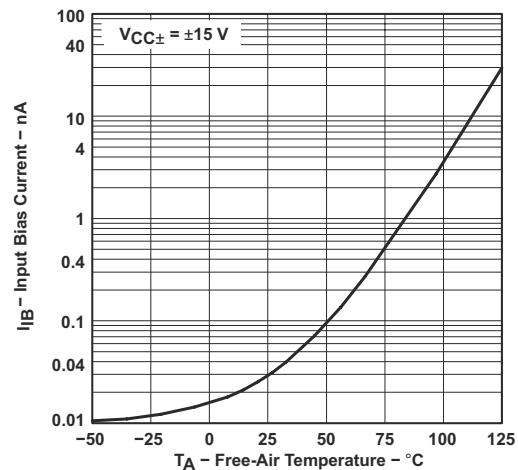

Figure 6-12. Input Bias Current vs Free-Air Temperature
- (1) All characteristics are measured under open-loop conditions with zero common-mode input voltage unless otherwise specified. Full range for  $T_A$  is  $0^\circ\text{C}$  to  $70^\circ\text{C}$  for TL06xC, TL06xAC, and TL06xBC and  $-40^\circ\text{C}$  to  $85^\circ\text{C}$  for TL06xI.
- (2) Input bias currents of an FET-input operational amplifier are normal junction reverse currents, which are temperature sensitive, as shown in Figure 6-12. Pulse techniques are used to maintain the junction temperature as close to the ambient temperature as possible.
- (3) Specified by design and characterization; not production tested.
- (1) All characteristics are measured under open-loop conditions with zero common-mode input voltage, unless otherwise specified. Full range for  $T_A$  is  $0^\circ\text{C}$  to  $70^\circ\text{C}$  for TL06xC, TL06xAC, and TL06xBC and  $-40^\circ\text{C}$  to  $85^\circ\text{C}$  for TL06xI.
- (3) Assured by design and characterization; not production tested.
- (1) This parameter is not production tested.
(2) All characteristics are measured under open-loop conditions, with zero common-mode voltage, unless otherwise specified.
(3) Input bias currents of an FET-input operational amplifier are normal junction reverse currents, which are temperature sensitive, as shown in Figure 6-12. Pulse techniques are used to maintain the junction temperature as close to the ambient temperature as possible.
(4) Specified by design and characterization; not production tested.